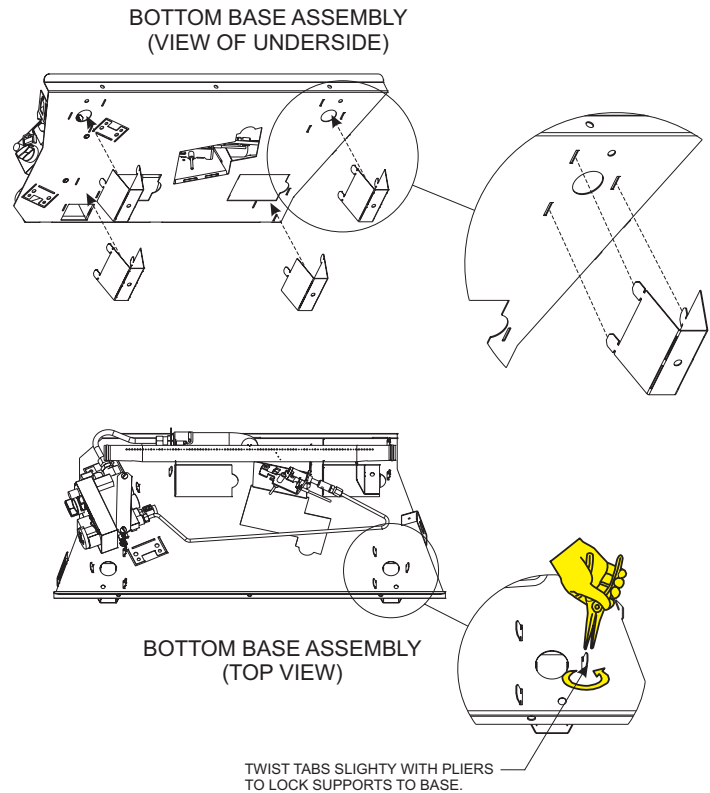

Figure 10
- If a Remote Control option is to be used with the VFRL (millivolt) series burner without the Support Legs installed, the remote receiver box must be installed outside of the firebox away from excessive heat. However, the remote receiver may be placed under the elevated Loft Burner by installing the Burner Support Legs. **See Figure 10.** If the Support Legs are to be installed, simply bend each of the legs into a "U" shape to match the drawing in **Figure 11.** Next, install the legs into the bottom base. Line up the three tabs on each leg with the slots provided, using pliers twist each of the tabs slightly in order to secure the legs to the bottom base.
- Installation of the Burner Support Legs is necessary on the VFIL (remote ignition) series burners. These models include a remote receiver box that must be placed under the bottom base of the Loft Burner assembly to shield the receiver batteries from excessive heat. **See Figure 17.** To install the Support Legs, simply bend each of the legs into a "U" shape to match the drawing in Figure 11. Next, install the legs into the bottom base. Line up the three tabs on each leg with the slots provided, using pliers, twist each of the tabs slightly to secure the legs to the bottom base. **See Figure 10.**